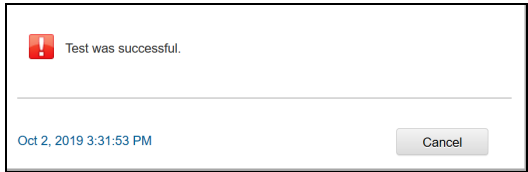

Figure 12-5 HMC test successful
5. The test result is displayed, as shown in Figure 12-5.